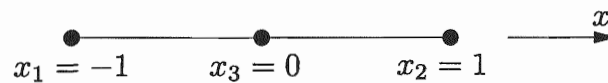

Fig. 1
- 1 (a) For the quadratic bar element shown in Fig. 1: